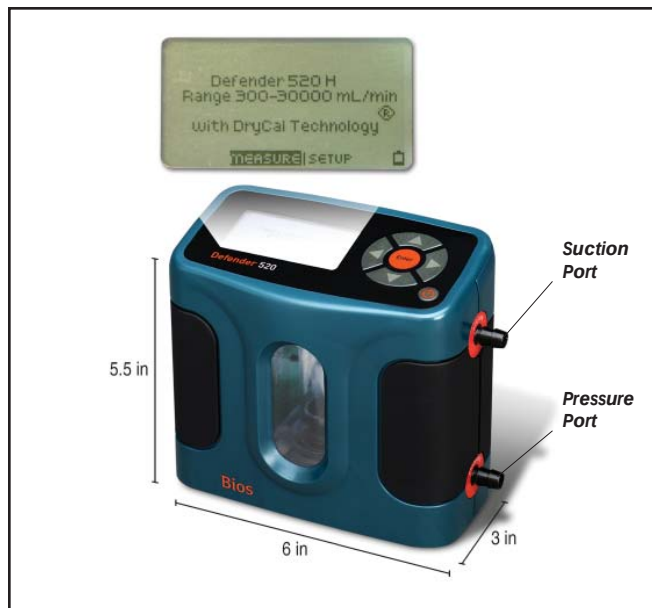

Figure 1. Defender Primary Standard Calibrator
1. Setting Up the Electronic Calibrator (Figure 1)
Note: The Defender Calibrator has two ports (see Figure 1), a pressure port for pressure applications and a suction port for pump or suction applications. Refer to the calibrator operating instructions for proper selection.